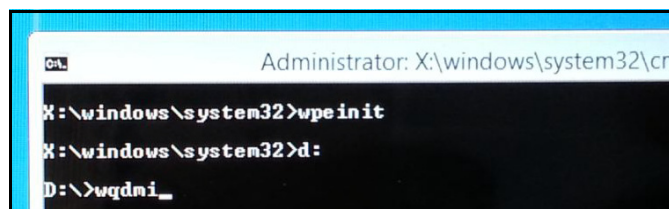

Figure 2-88. WINPE Mode
10. Type **wqdm** and press **Enter** (Figure 2-88). To execute a specific function, input the command and the associated parameter as shown in Figure 2-89.